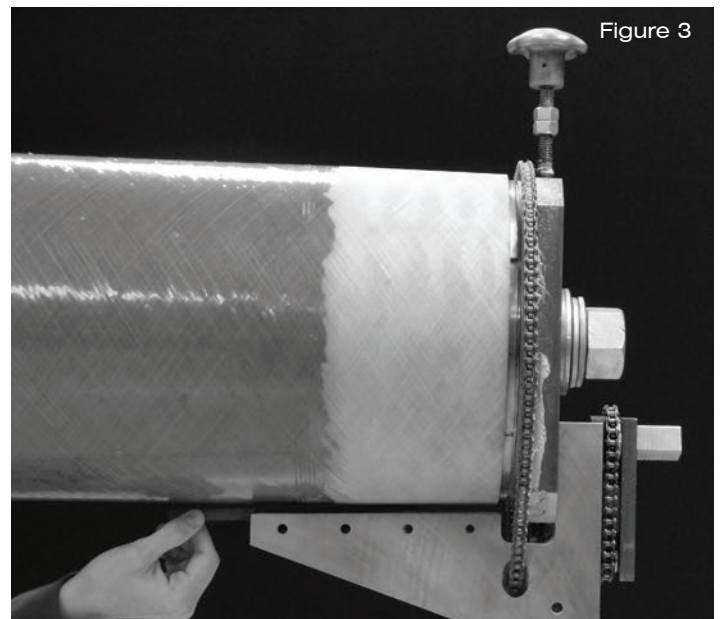

Figure 3
4. The blade holder should be at the bottom point of rotation to insert and adjust the blade. (Refer to Fig. 3.)